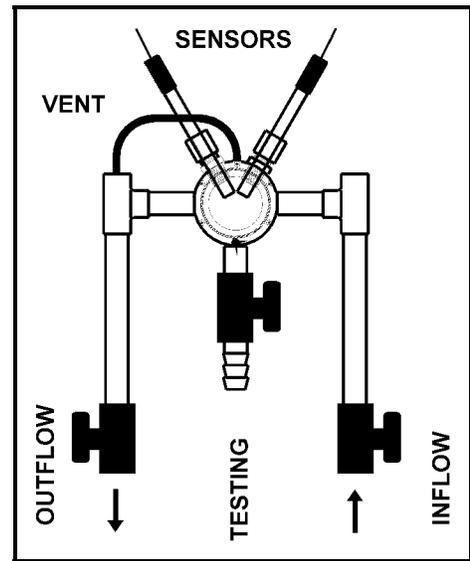

Figure 5 - Flow Cell Assembly
- even better, in a sensor cell mounted on the bypass line (Figure 5).
For additional ease of installation and maintenance, it is also recommended to mount the sensors in the optional Flow Cell Assembly as shown in Figure 5. It includes: